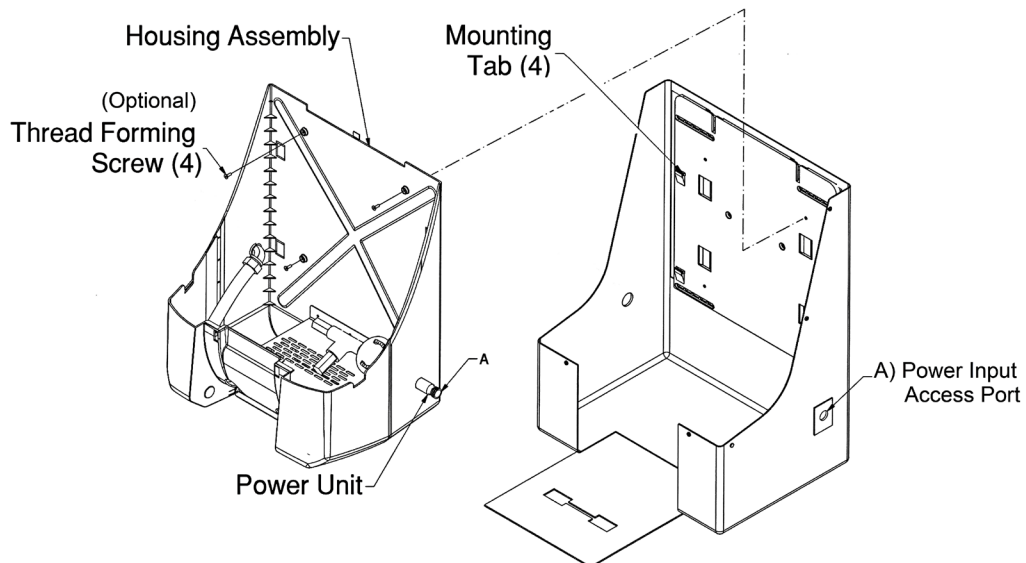

FIGURE 2
Step 2. Housing Assembly (Ref Figure 2)
- C. Secure Housing using Thread Forming Screw (4) provided. This step is **optional** intended for high vibration applications.